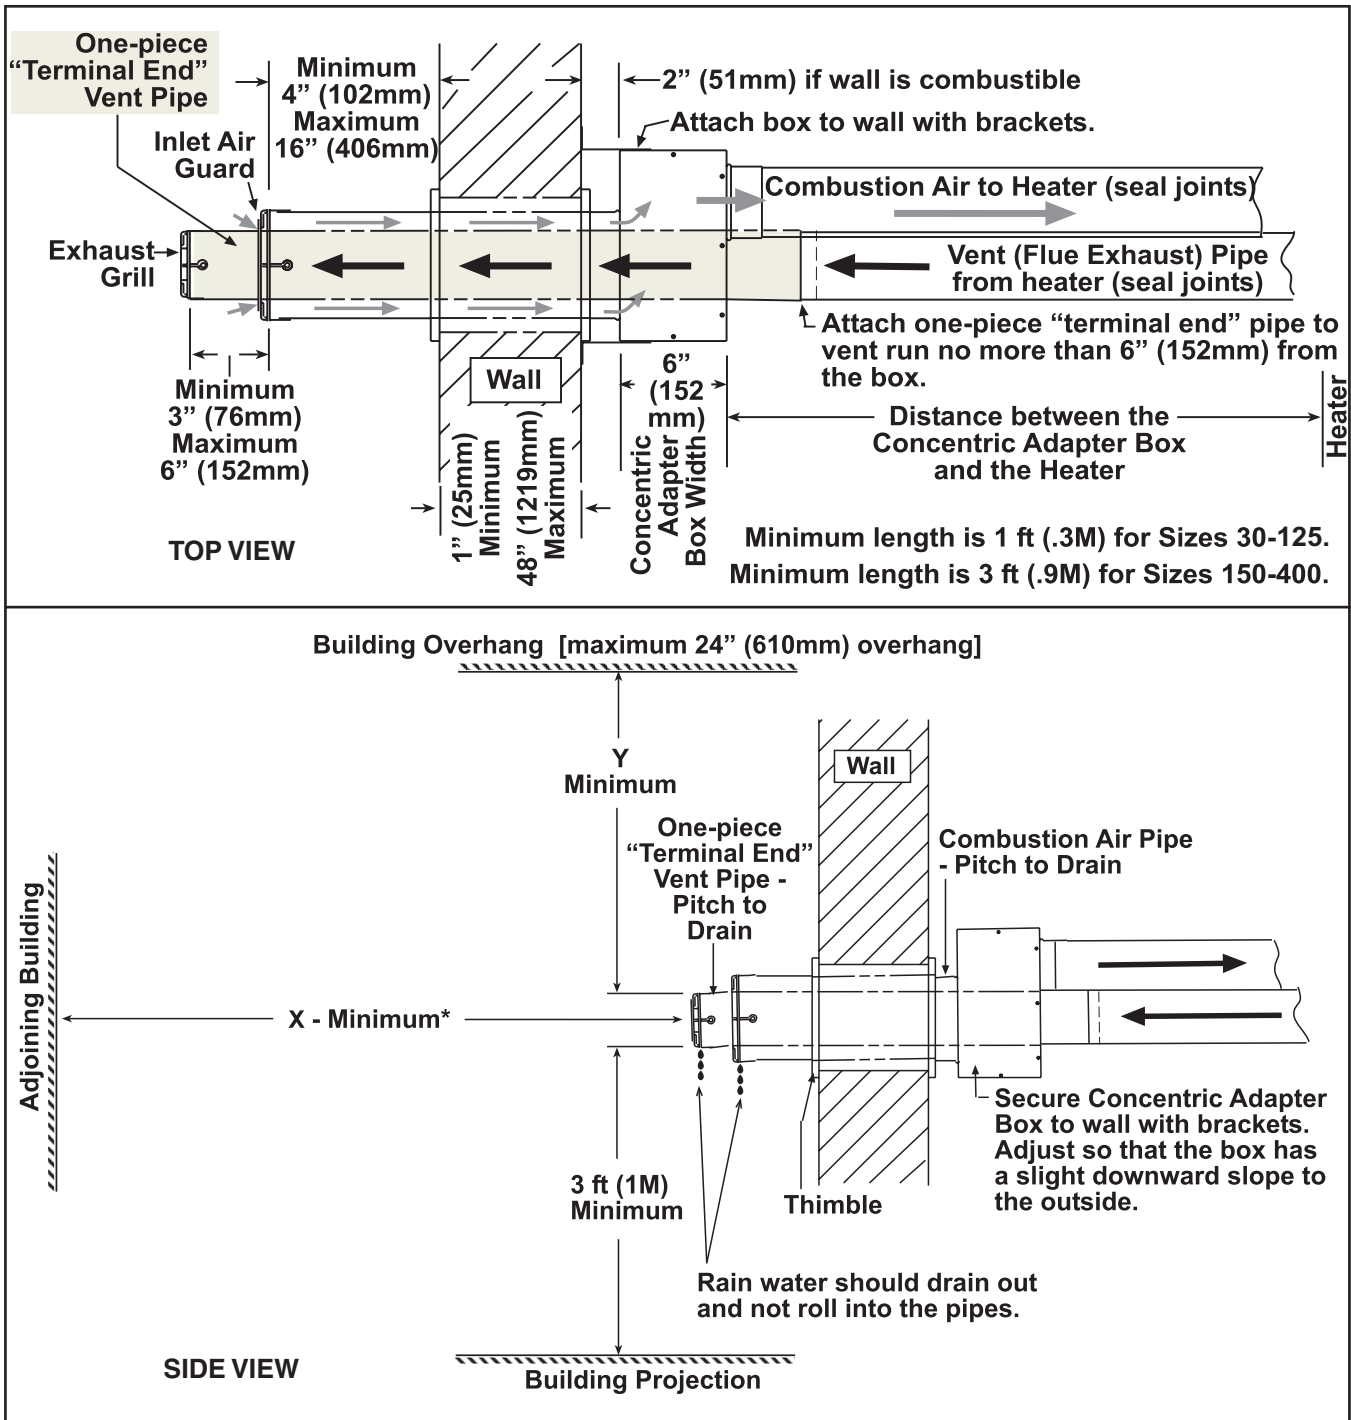

Figure 14. Option CC6 Installation (Refer to Table 10)
5. Connect outside section of combustion air pipe to concentric adapter box (see **Figure 14**):
- (1) Bracket length from box to wall
- (2) Plus wall thickness
- (3) Plus 4–16 inches (102–406 mm) beyond wall
6. Secure concentric adapter box to wall (see **Figure 14**):
- a. Position inlet guard over end of combustion air pipe in accordance with **Figure 14**.
Unit Size (MBTUh)	Dimension (See Figure 14)
- a. Position exhaust grill over end of vent pipe in accordance with **Figure 14**.
11. Verify compliance with **Figure 14** and with all specifications and requirements listed in this manual.